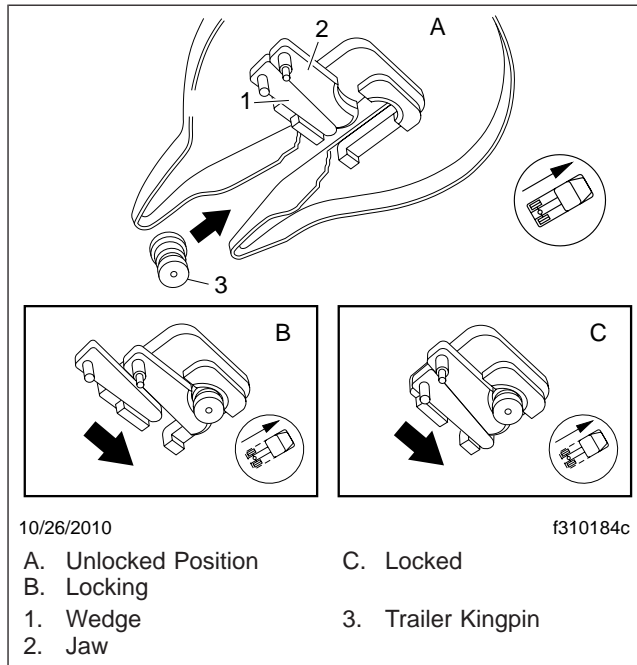

Fig. 10.15, Fontaine Kingpin Lock Mechanism
Fifth Wheel Lock Mechanism for Trailer Kingpin (Fig. 10.15)
During coupling (Fig. 10.15), the motion of the kingpin entering the jaw will actuate the jaw and wedge. The jaw will move behind the kingpin, followed by the wedge. The purpose of the wedge is to reinforce the jaw and take up slack around the pin. Any wear on the jaw is immediately taken up by the wedge so there is no slack in the connection.
3. Position the tractor so that the fifth wheel lock opening is in line (both vertically and horizontally) with the trailer kingpin. The kingpin should be in a position to enter the throat of the locking mechanism (Fig. 10.15). Adjust the trailer landing gear to give enough alignment height for positive kingpin lockup.